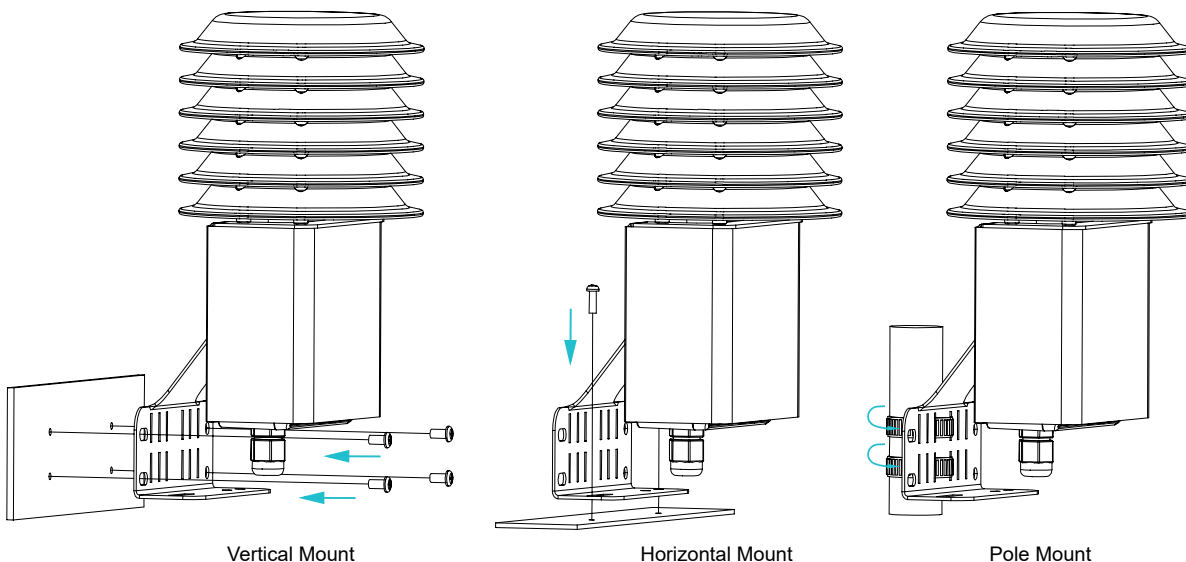

Figure 13 AcuHUM OAW Mounting Configurations
6. Mount the entire installation by utilizing the mounting bracket on the back of the weather shield. The mounting bracket is designed to be mounted on a vertical/horizontal surface or onto a pole when paired with a gear clamp, as shown in Figure 13. The gear clamp is not provided by Accuenergy. Place the sensor inside the weather shield so that the sensor probe is protected by the shield, and the cordgrip points downward towards the ground.